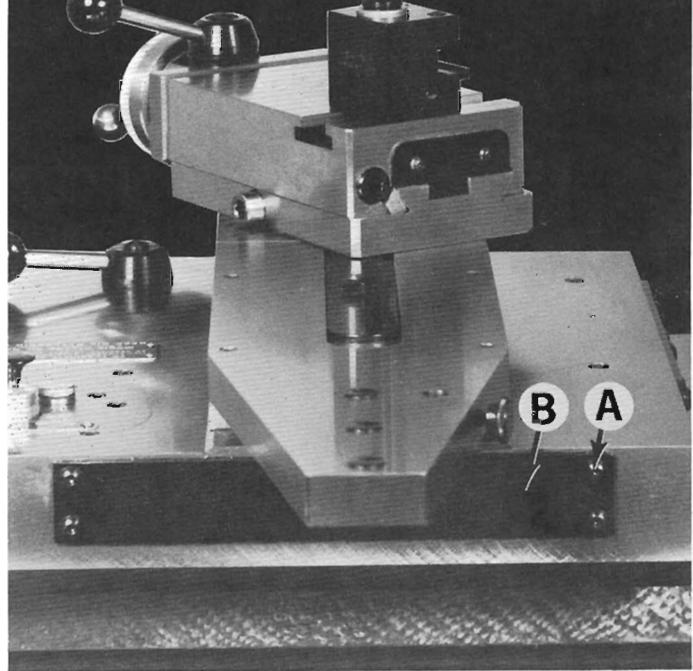

Figure 104 — Junction Block Cover
1. TO GAIN ACCESS TO THE JUNCTION BLOCK, remove four screws "A", Figure 104, and cover "B".